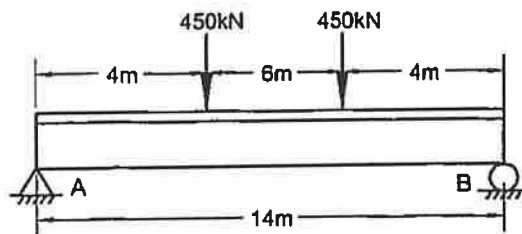

FIGURE 3
5. The loaded prestressed concrete girder in Fig. 3 is to be designed with no tension.